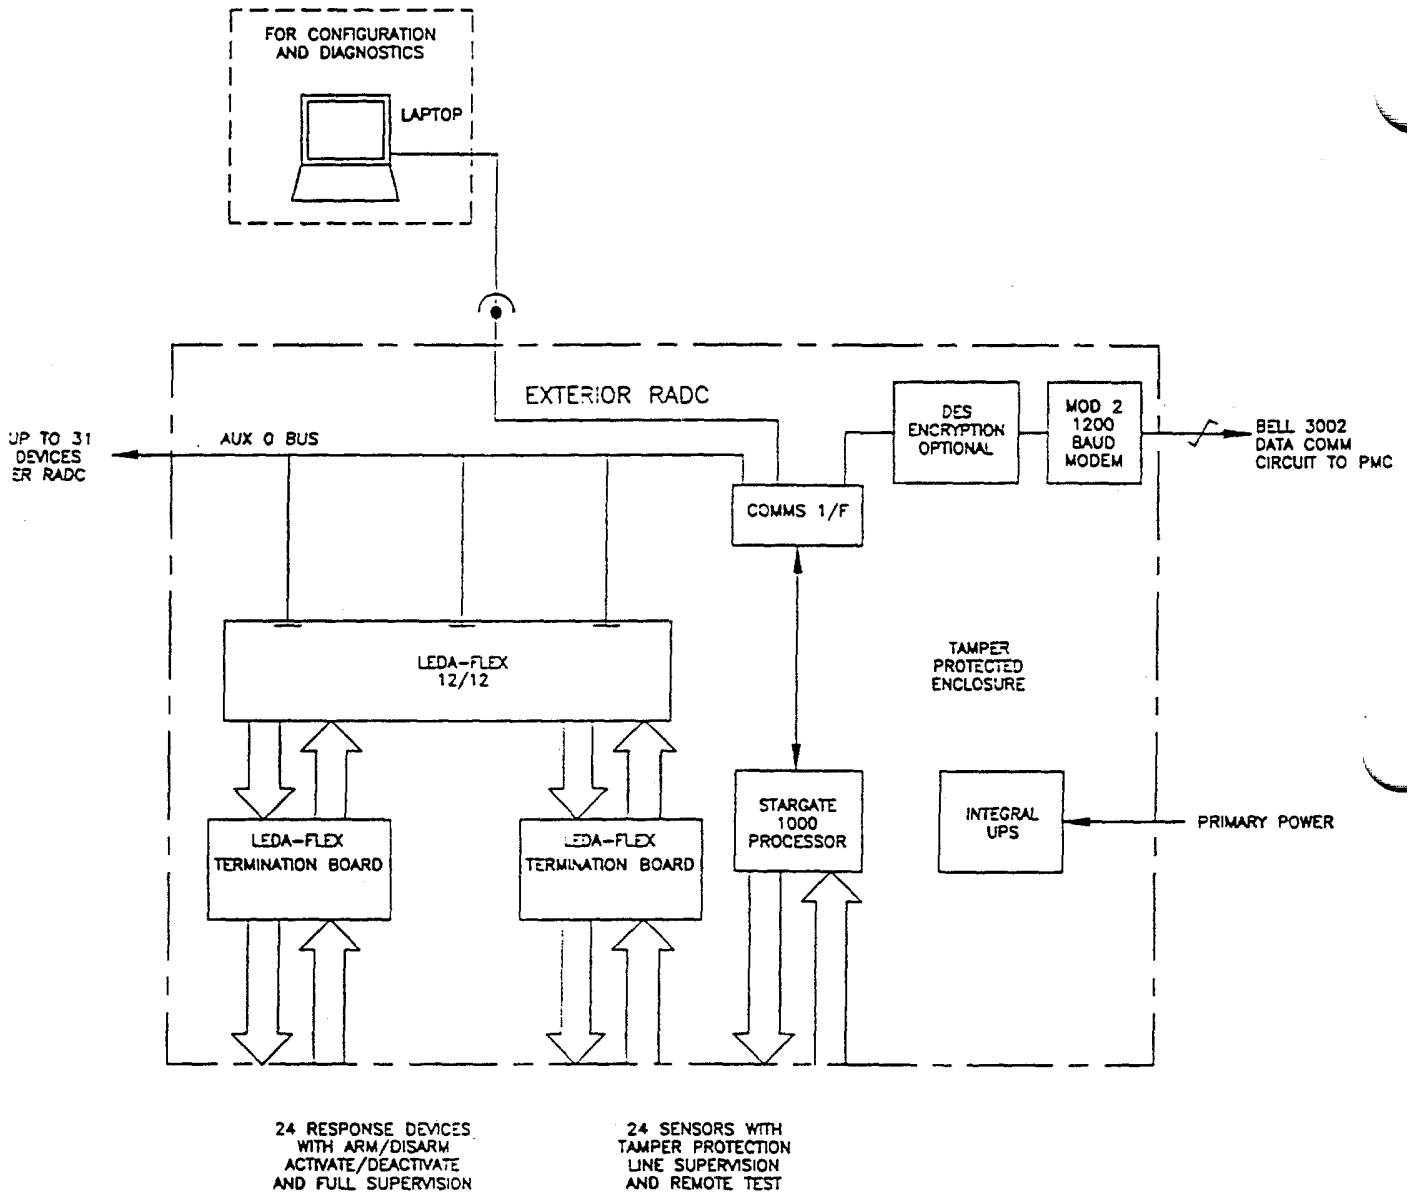
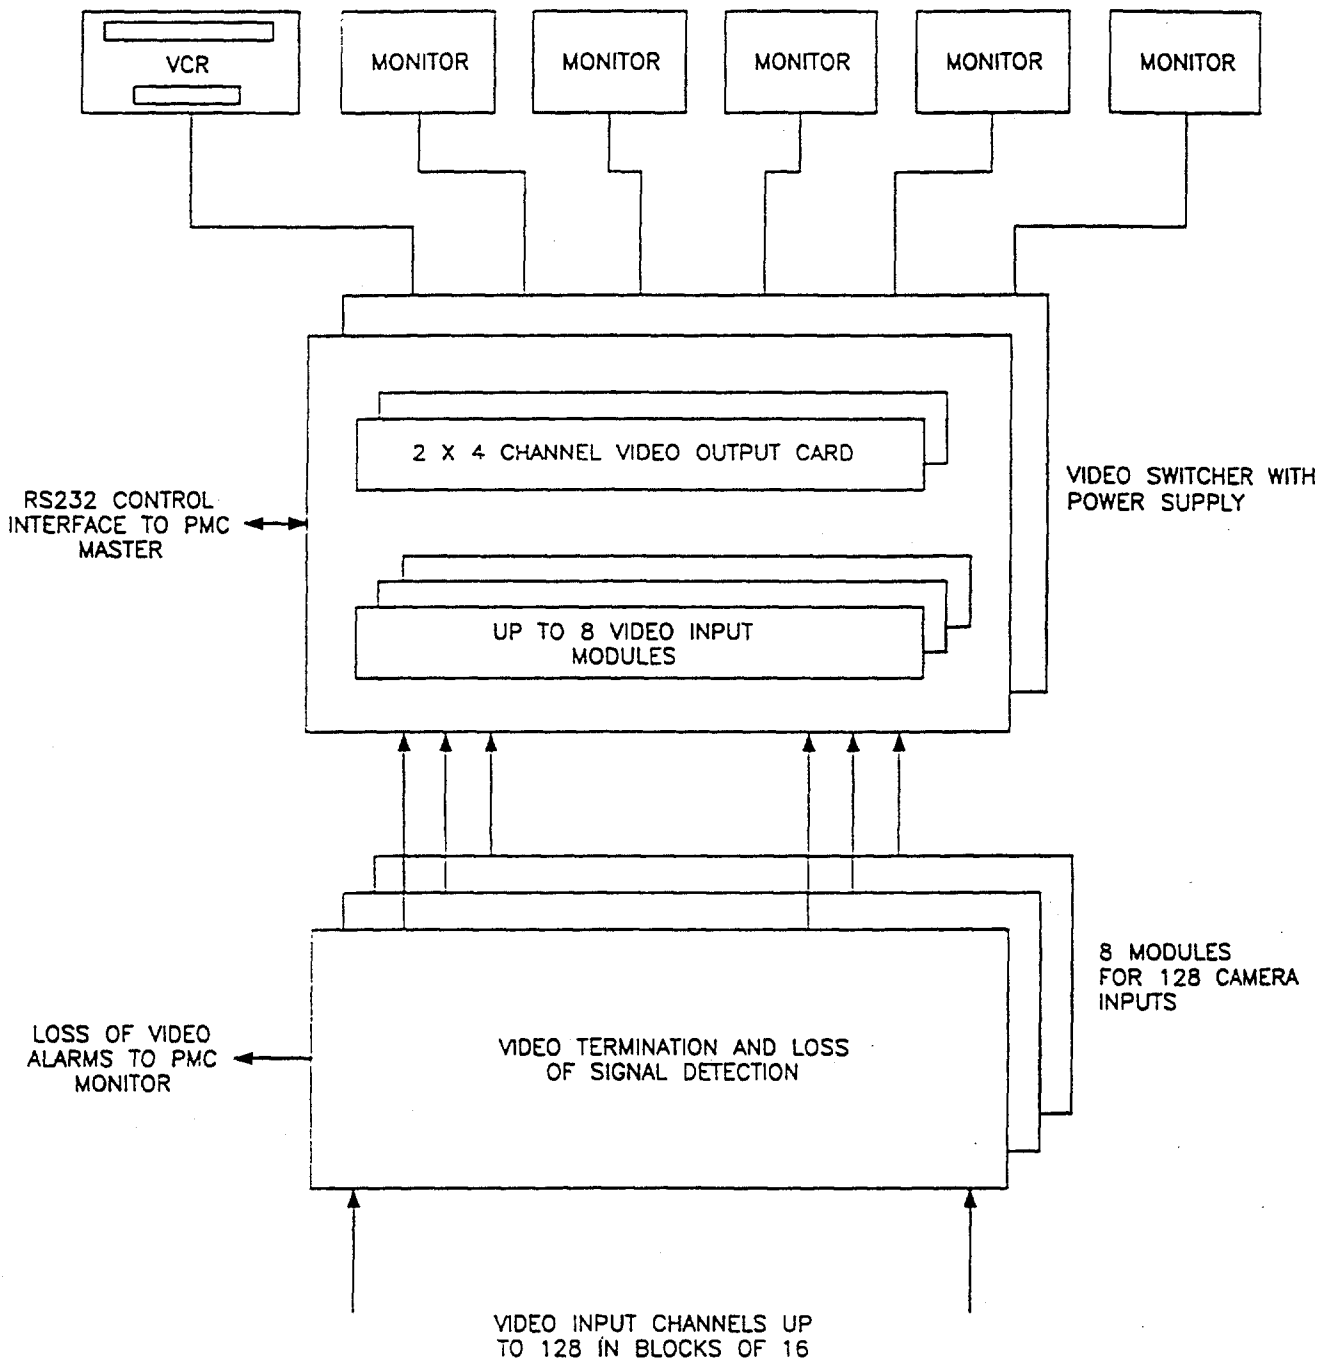

Figure 1-27. ICIDS Exterior RADC-General Block Diagram
Figure 1-28. ICIDS Video Switching System-General Block Diagram
The monitoring and control of all intruder detection and access control equipment is carried out by a network of Remote Area Data Collectors. The main feature of the RADC is the STARGATE 5000 PWA (Figure 1-27), which is used in the interior RADC or the STARGATE 1000 PWA (Figure 1-28), used in the exterior RADC. The STARGATE 1000 provides the same information to the PMC as does the 5000 PWA, but the PWA does not have the Comms Port to support the IAC unit. The STARGATE PWA contains the processor and programs that monitor the sensors, key pad, card reader, Leda PWA and the IAC PWA. Each RADC compiles a detailed list of readings and changes that are detected by sensors and remote Ledas and periodically transmits this information to a computer within the control room known as the Central Processing Unit (CPU). The readings are then processed and compared against a known value and stored. If the compared value is different from the known value an alarm is generated, and the operator display screen is immediately updated to reflect any detected changes.
**f. Closed Circuit Television (CCTV) System.** (See Figure 1-28.) CCTV provides remote surveillance of a site by one or more monitors which display the pictures received from a network of CCTV cameras. Each monitor can be configured to display the pictures of a particular camera at all times or those of several cameras in a pre-defined sequence. Optionally, the operator may use the workstation keyboard to direct the scenes of a particular camera onto a chosen monitor.
**(1) Video Switcher.** The switcher is microprocessor based, and software programmable with the software supplied as part of the switcher. The switcher is a modular system that will allow for expansion of modification of inputs, outputs, alarm interfaces, and secondary control stations by addition of appropriate modules. Changes or alteration of features under software control are made through on-site software programming. The switcher retains the current program and camera monitor assignments in the event of power loss, and does not require reprogramming to restart the system. The switcher is programmable for switching any video input to any video output, and has a minimum switch matrix capacity of no less than 128 video inputs.
**(2) Monitors.** Video monitors are monochrome monitors. Each monitor has a nine-inch cathode ray tube (CRT) measured diagonally. The monitors have automatic frequency control and reproduce no less than ten discernible shades of gray. Front panel controls are provided for power on/off, horizontal hold, vertical hold, contrast, and brightness. The monitors are capable of being racked in twin mount kits side by side in an Electronic Industries Association (EIA) standard 19 inch rack. A movable blank panel is provided for rack mounting a single video monitor in either side of the rack. The cabinet holds up to four monitors. The monitors may be wall or ceiling mounted.
**(3) Equalization Amplifier.** (Optional) The video equalizing amplifier corrects loss in video signal level and high frequency attenuation caused by long distance video signal transmission over hard wire systems. The amplifier has independent signal gain and equalization controls. It provides a minimum of 6 dB of video gain and 12 dB of high frequency compensation.
**(4) Distribution Amplifier.** (Optional) The video distribution amplifier is used when there is significant loss in the video signal and high frequency attenuation due to long distance transmission over hard wire lines between the video switcher and the monitors.